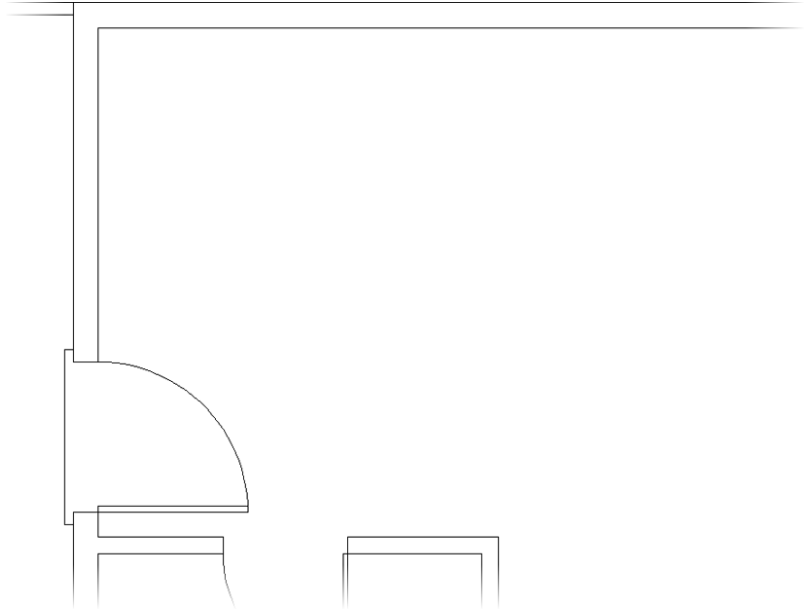

FIGURE 5.38: Zoom in to the kitchen area.
2. Use a zoom window to zoom your view so that it is about the same magnification as Figure 5.38.